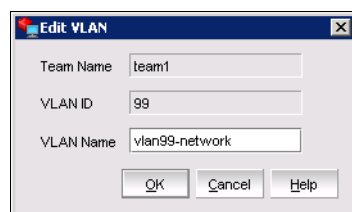

Figure 7-110 Edit VLAN window
- f. In the Edit VLAN window (Figure 7-110), enter the VLAN ID number for the VLAN you want to use and a VLAN name. Then click **OK**.